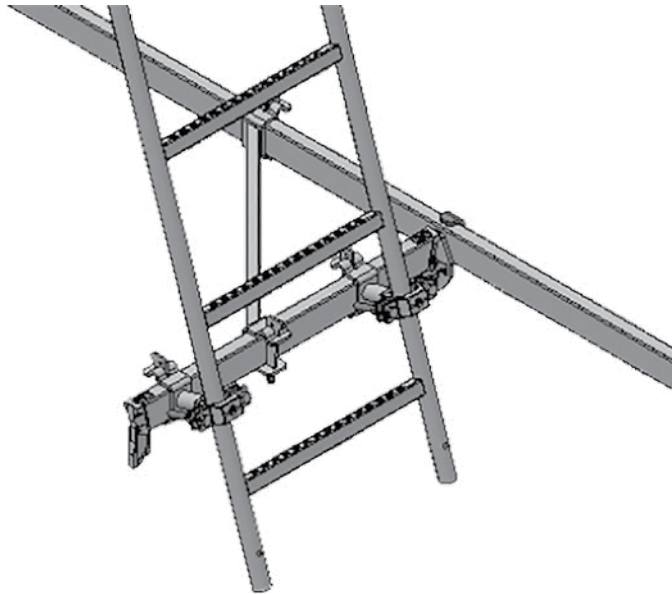

Fig. A2.06
2. Assemble Ladder Connector Ledger UAM-S (Fig. A2.06)